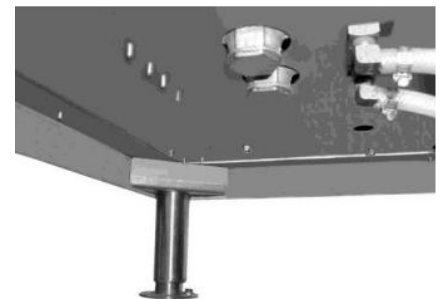

Figure 8-4
3. On some models the strainers are built into the steamer and are accessible from underneath the steamer (See Figure 8-4), otherwise the strainers should be installed upstream of the steamer in the water supply(s).